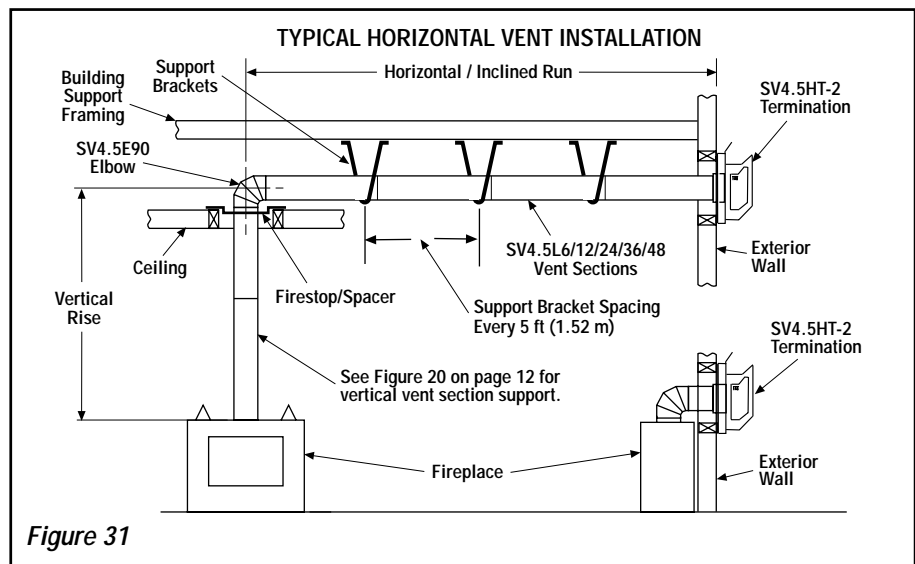

Figure 31
G. Continue installation of horizontal/inclined sections - Continue with the installation of the straight vent sections in horizontal/inclined run as described in **Step C**. Install support straps every 5 ft. (1.52 m) along horizontal/inclined vent runs using conventional plumber's tape. See **page 16, Figure 31**. It is very important that the horizontal/inclined run be maintained in a straight (no dips) and recommended to be in a slightly elevated plane, in a direction away from the fireplace of 1/4" rise per foot (20 mm per meter) which is ideal, though rise per foot run ratios that are smaller are acceptable all the way down to at or near level. Use a carpenter's level to measure from a constant surface and adjust the support straps as necessary.
Figure 31, and Figures 34 to 41 on pages 18, 19 and 20 and their associated Horizontal Vent Table illustrate the various horizontal venting configurations that are possible for use with these appliances. **Secure Vent** pipe applications are shown in these figures; **Secure Flex** pipe may also be used. A Horizontal Vent Table summarizes each system's minimum and maximum vertical and horizontal length values that can be used to design and install the vent components in a variety of applications.
I. Continue installation of horizontal/inclined sections - Continue with the installation of the straight vent sections in horizontal/inclined run as described in **Step E**. Install support straps every 5 ft. (1.52 m) along horizontal/inclined vent runs using conventional plumber's tape. See **Figure 31**. It is very important that **the horizontal/inclined run be maintained in a straight (no dips) and recommended to be in a slightly elevated plane, in a direction away from the fireplace of 1/4" rise per foot (20 mm per meter) which is ideal, though rise per foot run ratios that are smaller are acceptable all the way down to at or near level.**